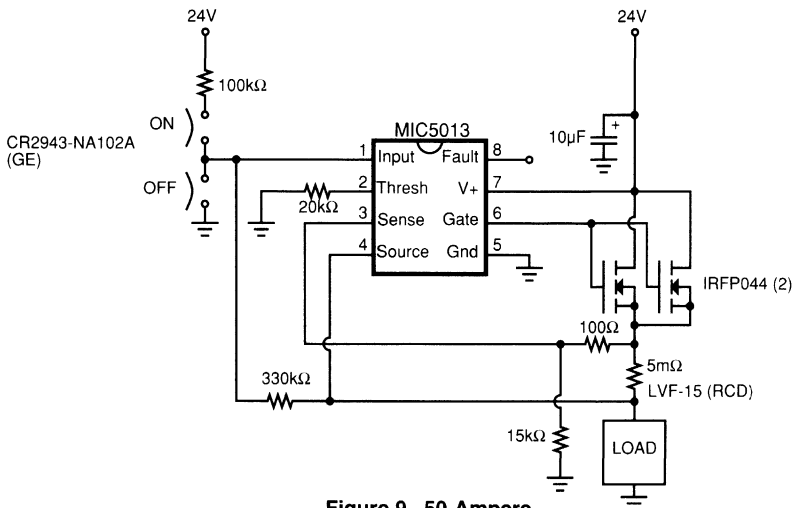

Figure 9. 50-Ampere Industrial Switch
**Fault-Protected Industrial Switch** (Figure 9). The most common manual control for industrial loads is a push button on/off switch. The "on" button is physically arranged in a recess so that in a panic situation the "off" button, which extends out from the control box, is more easily pressed. This circuit is compatible with control boxes such as the CR2943 series (GE). The circuit is configured so that if both switches close simultaneously, the "off" button has precedence. If there is a fault condition the circuit will latch off, and it can be reset by pushing the "ON" button.